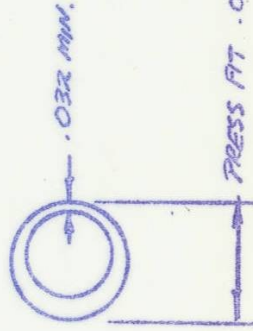

FIG. 2
3. HARDNESS TEST CAP. FABRICATE BLANK BUSHING FROM ETTNER SPS 245, 4130, OR 4340 STEEL OF THE SAME HARDNESS. ALLOW FOR A PRESS FIT OF .0005 - .001 IN CAP. SEE FIG. 2.